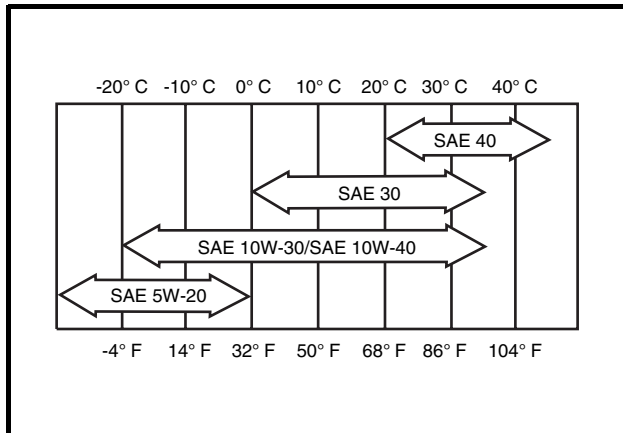

Figure 23 Oil Viscosity Chart
16. Remove the dipstick and add engine oil into the dipstick port. Use a funnel or pour spout to direct the oil into the dipstick port (**Figure 22**). With filter change, the engine requires 38 ounces (1.12 liters) of oil per change. Refer to oil viscosity guidelines for selection of oil grade (**Figure 23**). Replace the dipstick.
Choose the viscosity according to the temperature as shown in the oil viscosity chart (Figure 23).